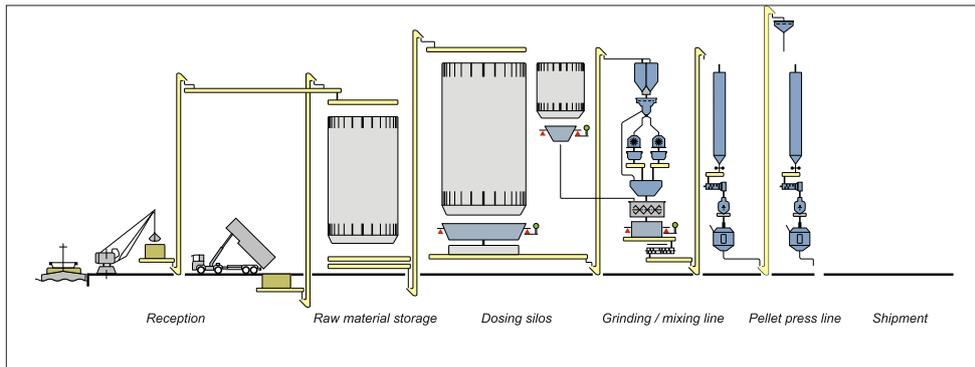
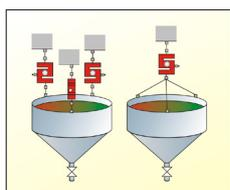
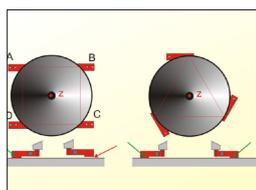
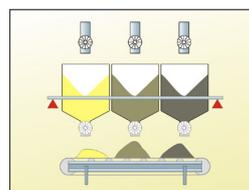

Figure 1. An overview of a complete feed mill installation
Figure 6. Hanging water or fat weighing systems.
Figure 7. The foundation of a standing arrangement for the small ingredients weigher.
Figure 8. A combined weighing frame for the small solid ingredients.
Broadly speaking, feed mills, see figure 1, exist of the:
The following, see figure 1, outlines in some detail the process sequence required to ensure consistent quality of a food mix. The schematic drawing describes the step by step process.
- Proper control of transport to the silos for raw materials is essential. Only then a good raw material administration is possible and it prevents for an undesirable contamination of raw materials. Essential information, included in the raw material administration, is the name of the raw material, after laboratory approval or with a reference to the supplier, the lot number, with the date and time of arrival. When an own laboratory check takes place, separated raw material and dosing silos can be practical, as indicated in figure 1. In such a case the raw material can then be conveyed from the raw material to the dosing silo after release by the laboratory, see photo 2.
A detailed description of the dosing process can be found in the white paper „Mixing chamber controllers for the processing industry“. The various components are dosed one by one into a long weighing hopper, which frequently is combined with the belt conveyor in the direction of the elevator, see figure 1. Rotary valves with a coarse and fine speed are usual as dosing devices, alternatively an adjustable slide combined with, per silo/component, a flat gate valve. The adjustable slide is a long one, controlled by a hydraulic system, which will simultaneously change the outlet opening of all raw material silos almost steplessly. This outlet opening, which controls the dosing speed this way, can be set per raw material/silo by means of the formula. Therefore the silo/raw material is selected with the gate valve, coarse and fine dosing speeds are preset with the adjustable slide. Moreover, products with troublesome flow characteristics can be scraped off with rapid movements of the slide. When all large components are dosed in accordance with the formula, the batch is conveyed to the holding position above the grinding/mixing line using the belt conveyor and the loading elevator.
The small components, fat and water are added to the mixture in relatively small quantities. Furthermore, these components follow a slightly different route, see figure 1. They are directly after dosing directed into the mixer. That's why for this applications separated small weighing systems are installed, see photo 5. As a matter of course this improves the production speed as well as the weighing and dosing accuracy. Depending on the mounting options, hanging, see figure 6, or standing, see figure 7, configurations are possible. The characters of powders, fat and water are incompatible, what requires at least three weighing systems. Optionally, when the dosing times allow this, a combined weighing frame can be used, see figures 8 and 9. The discharge of these weighers is integrated in the program of the grinding/mixing line.
See figure 1. In the grinding, mixing and pelletizer line, the mixture undergoes various operations. At first it is sieved, then pulverized in the hammer mill(s), after which it is treated in the mixer. In the mixer the small components, fat and water are added. When the mixture, in other words a mixture in powder form, is ready so far, it goes, possibly via a continuous mixer, into one of the silos for the finished products. If further processing is required, it is conveyed to the pelletizer. Both routes, to the finished product silos or the pelletizer(s), require internal transport with an elevator and a drag chain. In a number of cases it is necessary to perform an additional operation after pelletizing, for example spraying it with a brightener or flavouring substance. Appropriate methods for these are to control/regulate the pellet flow on a belt conveyor and simultaneously dose the brightener or flavouring substance by means of negative weighing on it. For these systems, we refer to the white papers on belt weighers and negative (LIW) weighing systems.